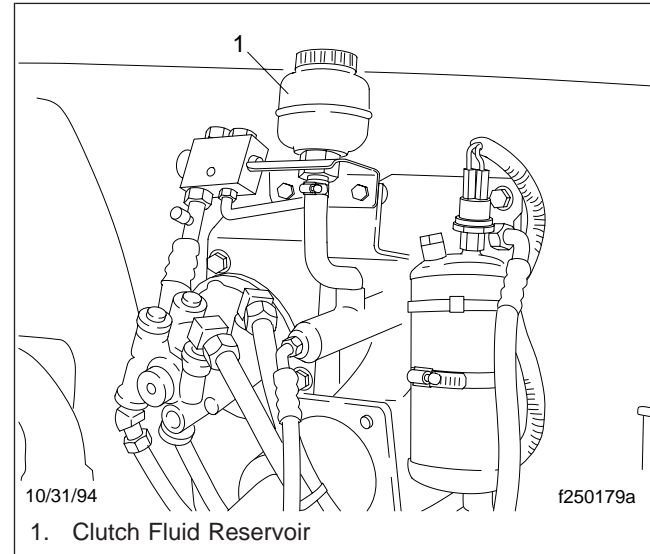

Fig. 9.6, Check Clutch Fluid Level
14. *Check the fluid level in the clutch fluid reservoir (Fig. 9.6).*